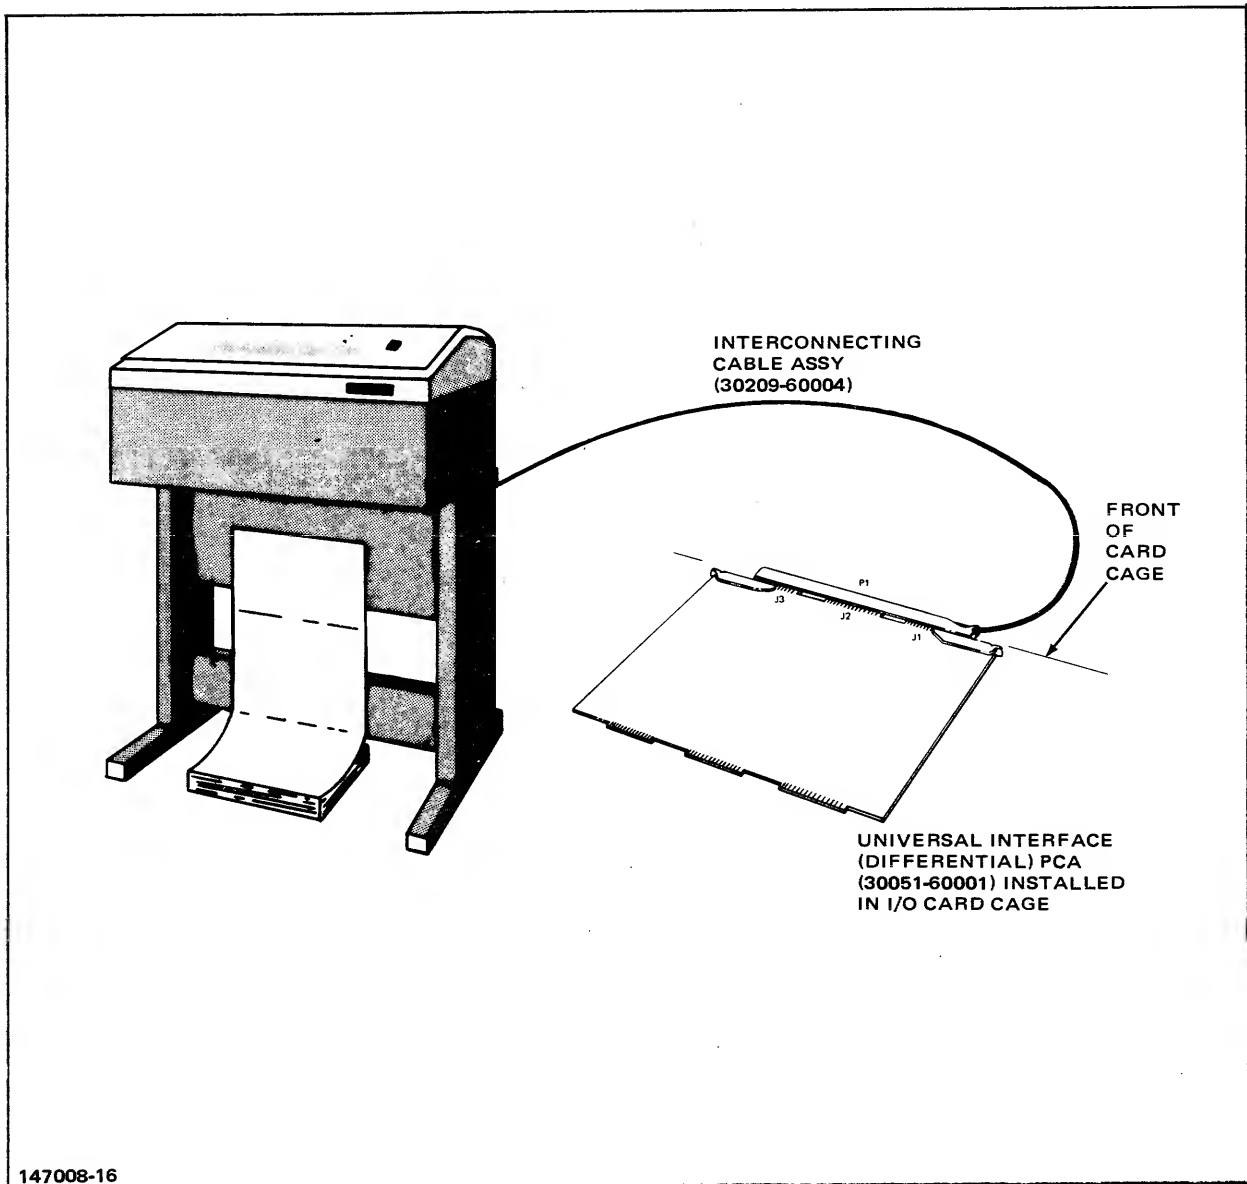

Figure 3-9. HP 2617A Line Printer
1. Connect the interconnecting cable assembly's P1 connector to the interface PCA as shown in figure 3-9.